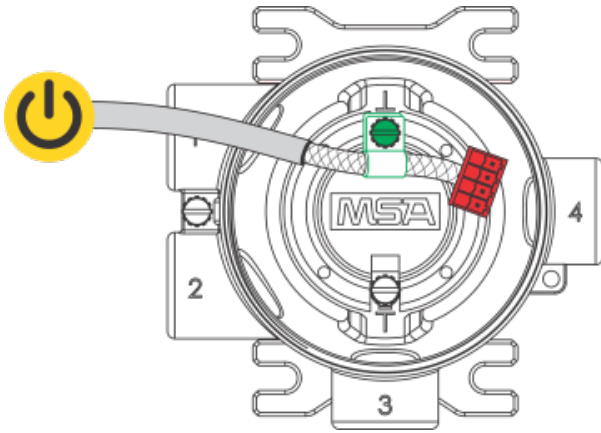
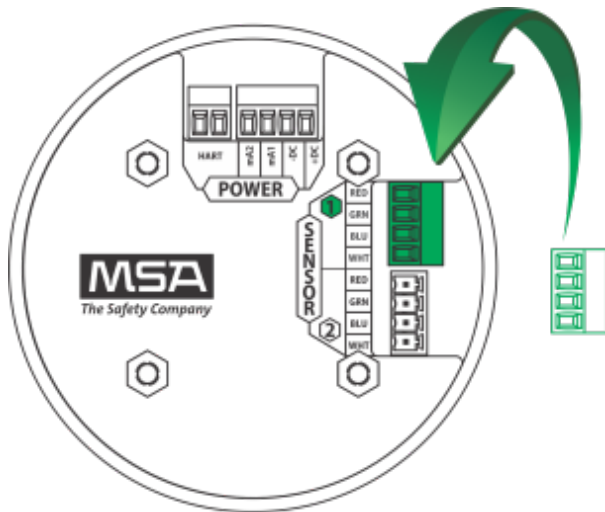

Figure 31 Connecting Power and Grounding Cable
Figure 32 Connecting a Sensor to the Board
8. Connect shield of cable to base of instrument housing (see Figure 31 Figure 30 ).
11. Connect an XCell or XIR PLUS sensor using the green connector. Sensor wires are already connected as shown on the cover plate (see Figure 32 Figure 31):